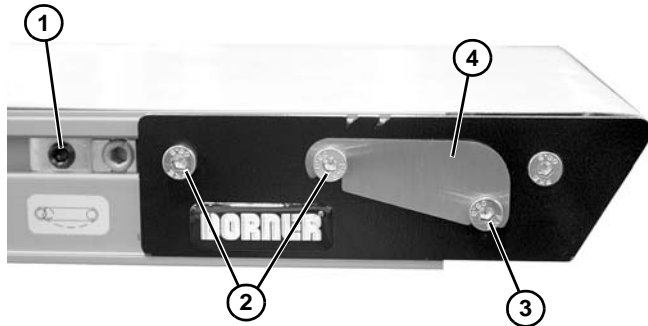
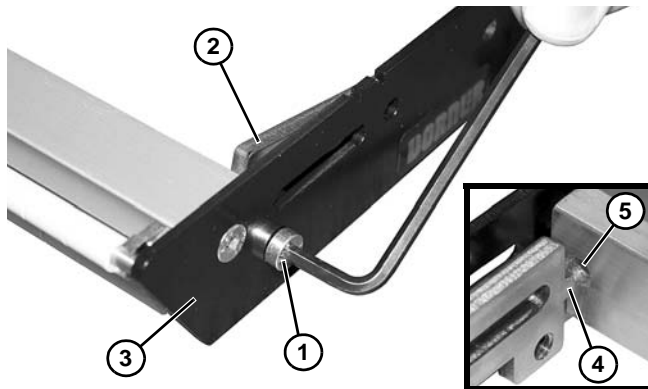

Figure 94
Figure 95
1. On both sides of conveyor, loosen cam fastening screw (**Figure 94, item 1**) (if equipped) and slide cam assemblies toward the center of the conveyor.
2. On both sides of conveyor, loosen two fastening screws (**Figure 94, item 2**) to remove belt tension. Remove belt from end of conveyor.
3. On both sides of conveyor, loosen fastening screw (**Figure 94, item 3**) and remove dust cover (**Figure 94, item 4**) (if equipped).
4. Remove nosebar tail from the conveyor and place on an open work surface. On one side of nosebar tail, remove two fastening screws (**Figure 94, item 2**).
5. Remove lower screw (**Figure 95, item 1**) and remove tail nut bar (**Figure 95, item 2**) and side plate (**Figure 95, item 3**).
*During reassembly, make certain that the tail nut bar nipple (**Figure 95, item 4**) is inserted into the support bar hole (**Figure 95, item 5**).*
8. Assemble and install head plate in reverse order of removal. Use a hex-key wrench to tighten lower screw (**Figure 95, item 1**) to 30 in-lb (3.4 Nm). Leave two fastening screws (**Figure 94, item 2**) loose for belt tensioning.